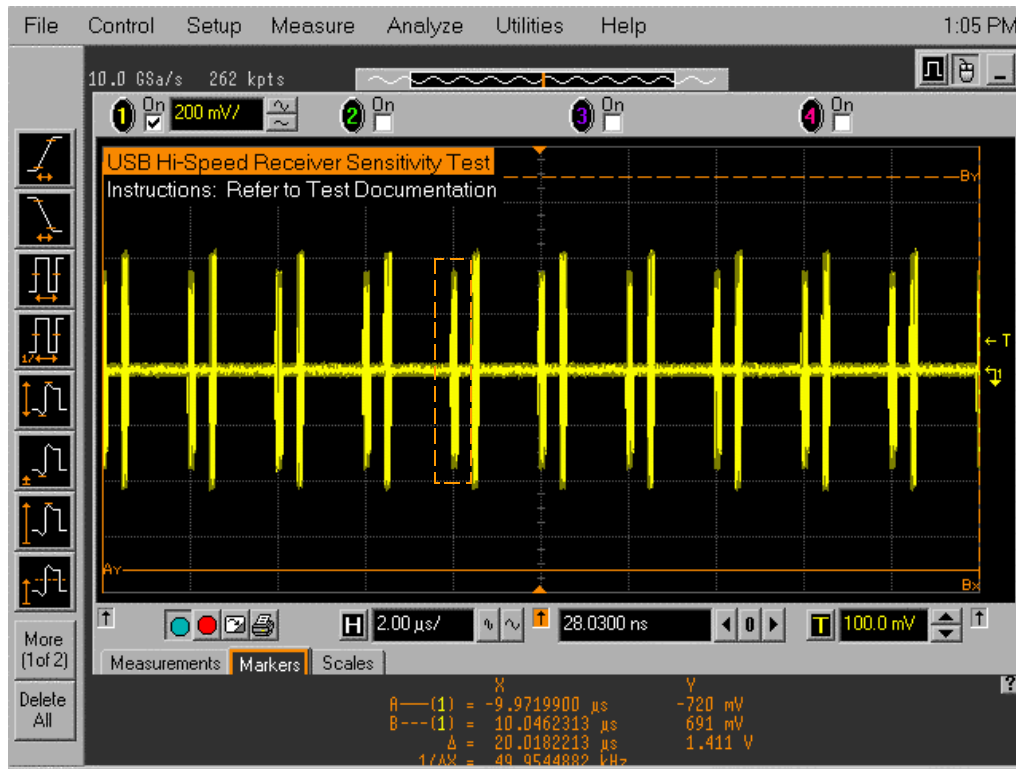

Figure 33. Zoom Box
- b. Zoom in the waveform by clicking inside the “Zoom Box” (Figure 33).
16. Click “right” mouse button in the main oscilloscope screen with no waveform. From the menu, select “Undo Zoom” until screen shot from Figure 33 is restored.